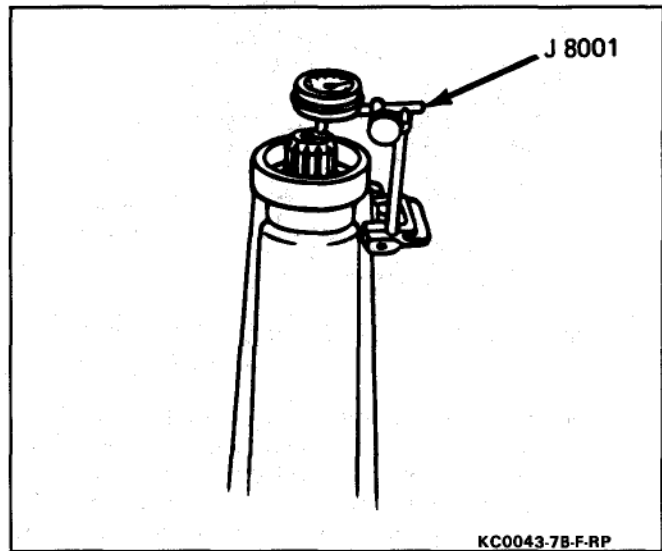

Figure 39 Measuring Mainshaft End Play
- Turn transmission case on end, and mount a dial indicator on extension housing with indicator on the end of mainshaft (Figure 39).